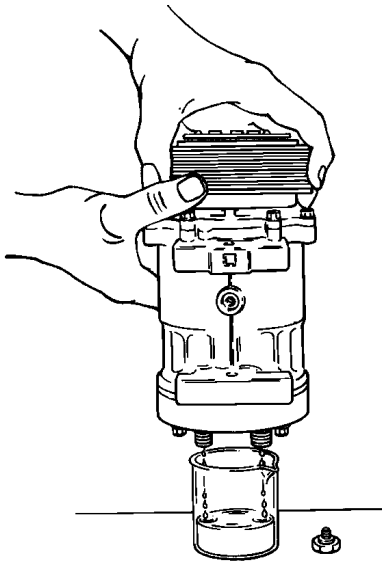

Figure 45 Drain Oil While Turning Shaft
5. Drain remaining compressor oil from the suction and discharge ports, into the calibrated container, while turning the shaft (clockwise only) by hand or with a socket wrench on the armature retaining nut (refer to Figure 45). Replace the caps on the suction and discharge ports.